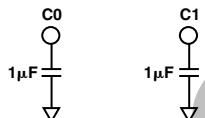

Figure 18. External Filter Capacitor Connections
Figure 18 illustrates signal-path filtering capacitors, C0 and C1. The AD1849K must use 1.0  $\mu$ F capacitors.
- The Analog Devices AD1849K uses two external capacitors to complete its internal input filter as shown in Figure 18. The CS4215 calls the two pins on the AD1849K for these capacitor connections, “no connects.” By laying out a board with these capacitors, either chip will work.